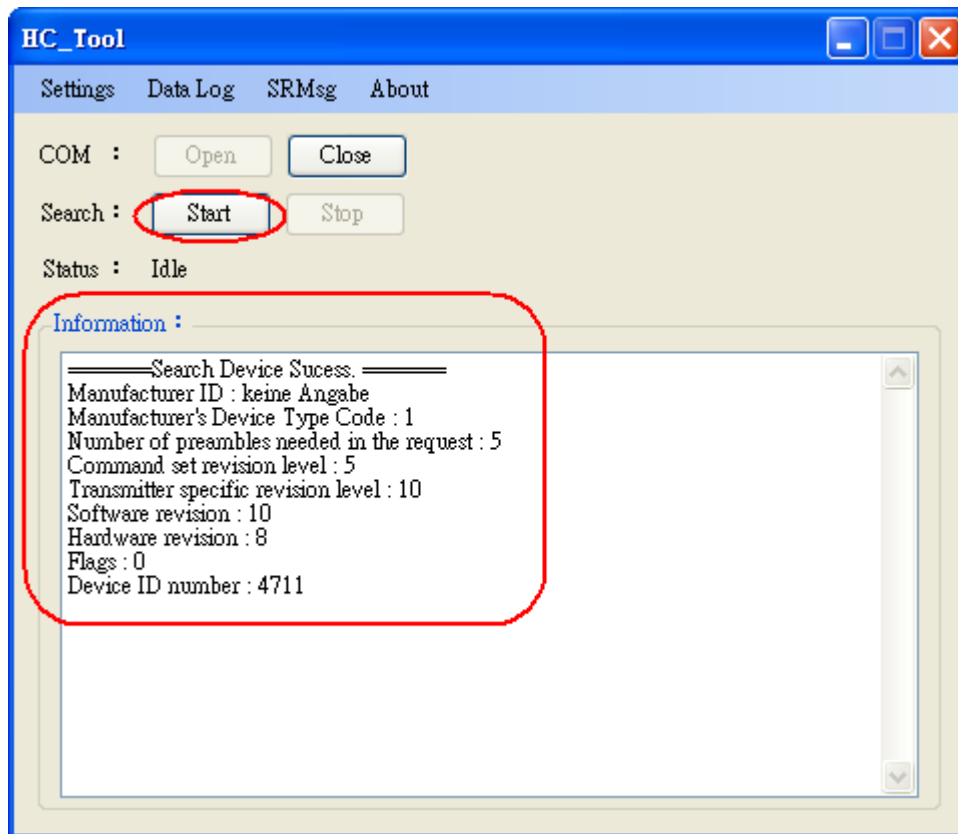

Figure 3-4: HART device Information
Step5: Click “Start” button to search all HART devices and the result will be shown in the ”Information” field like Figure 3-4.